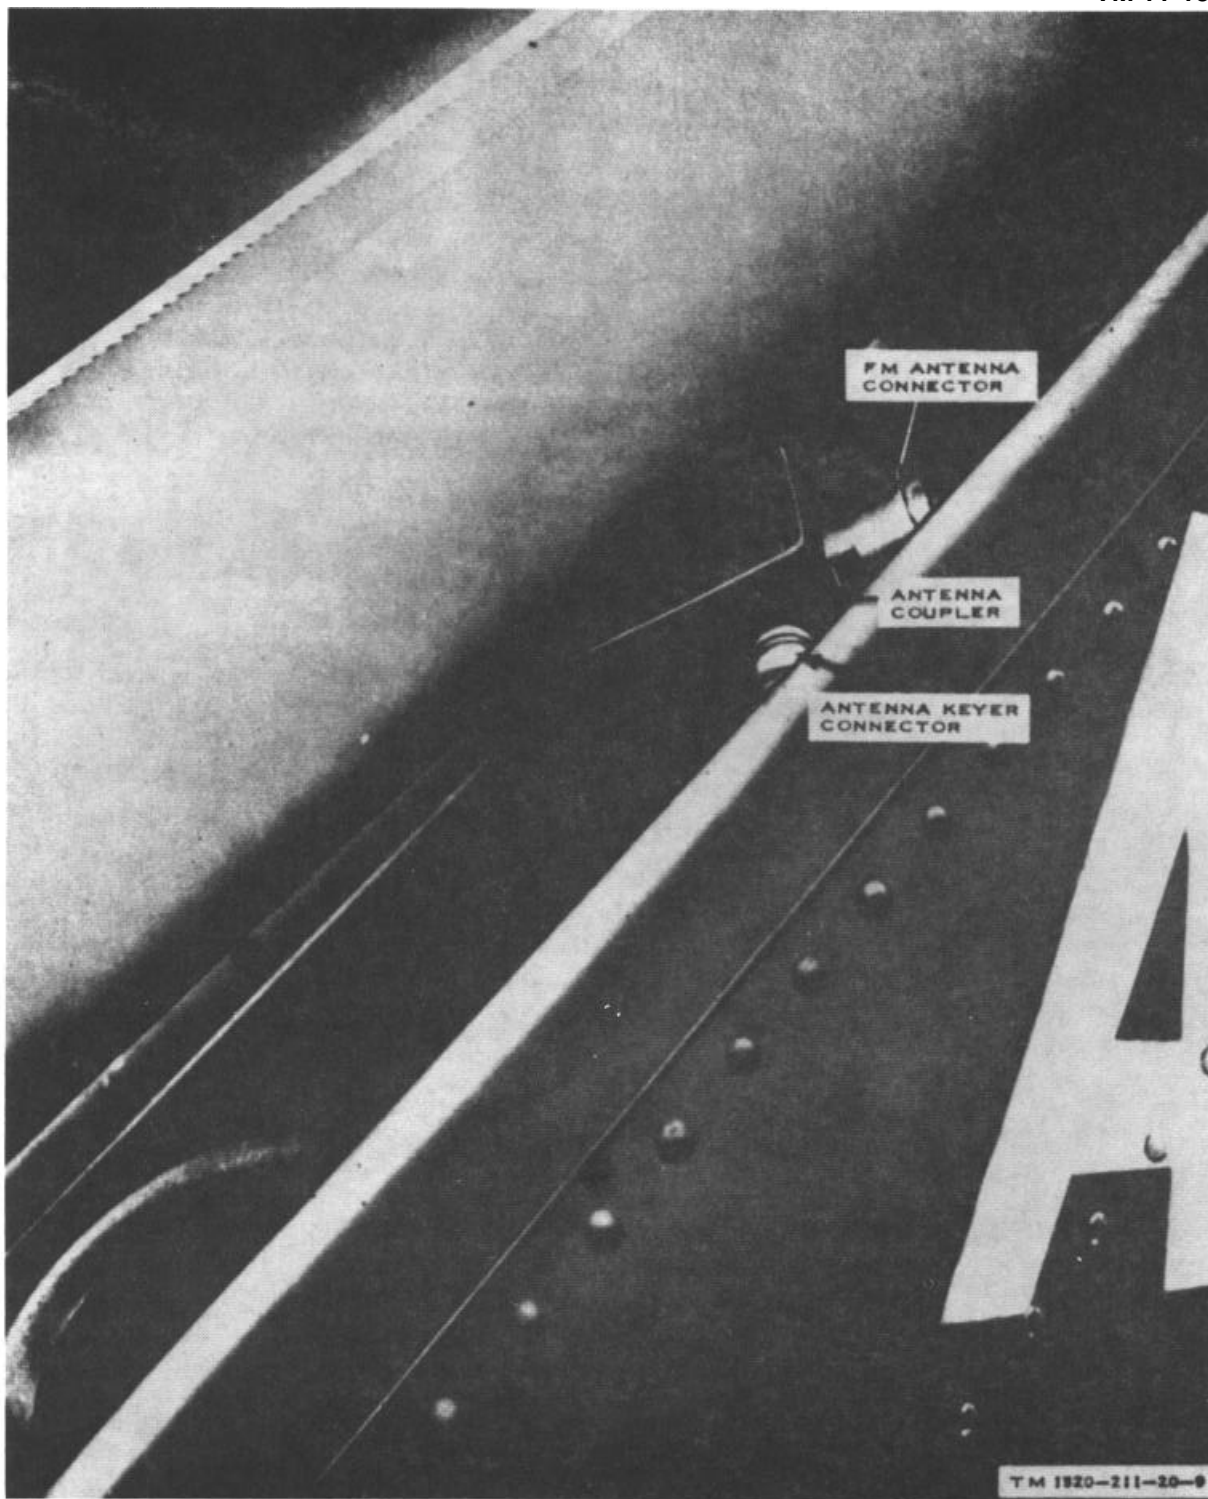

Figure 2-8. Coupler CU-361(*)/ARC installation.
(6) Remove the mounting screws that secure the CU-61(*)/ARC (fig. 2-8) to the tail boom, and then remove the CU-361(*)/ ARC.